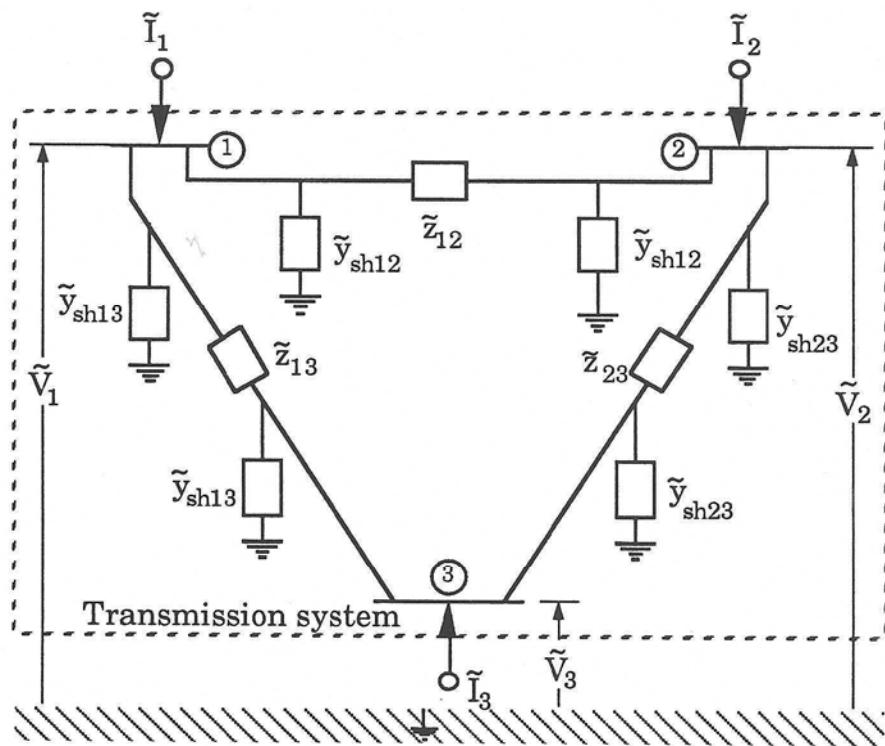

fig. 1
- The bus currents \tilde{I} are currents flowing into the transmission system from generators, loads, or other power system elements connected to the transmission system, but not shown in fig. 1.
The power system shown by Fig. 1 can be redrawn as: